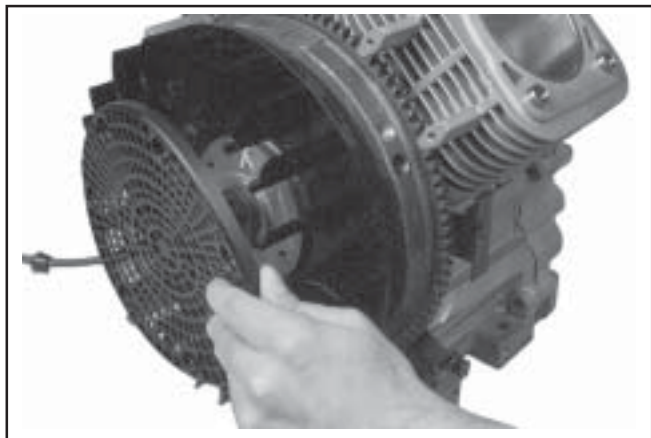

Figure 9-49. Removing Plastic Grass Screen.
1. On engines with a flat plastic screen, small metal retainers are typically attached on three of the seven mounting posts for positive retention of the plastic grass screen. Use a hook-end tool next to the post and pull outward to separate each of the small metal retainers. Then unsnap the screen from the mounting posts. See Figure 9-49.